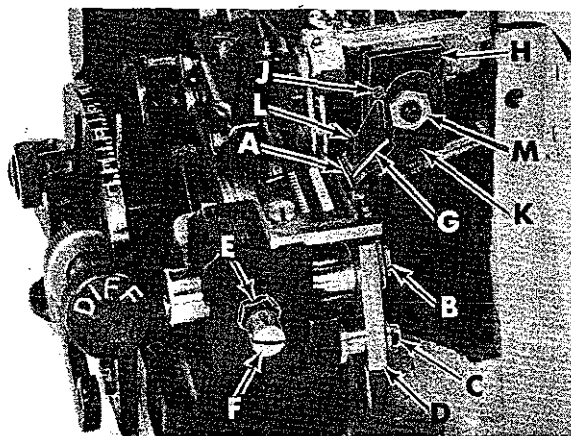

Fig. 15
Cutting edge of knife (A, Fig. 15) must be even and parallel with top surface of throat plate. Examine sewn sample for specified seam width and appearance.
With upper knife (G, Fig. 15) at lowest position of travel and while holding upper knife firmly against lower knife, adjust knife holder (H) left to right, to position front tip of upper knife cutting edge  $1/64 - 1/32$  inch (.4 - .8mm) below cutting edge of lower knife, then tighten screw (J).